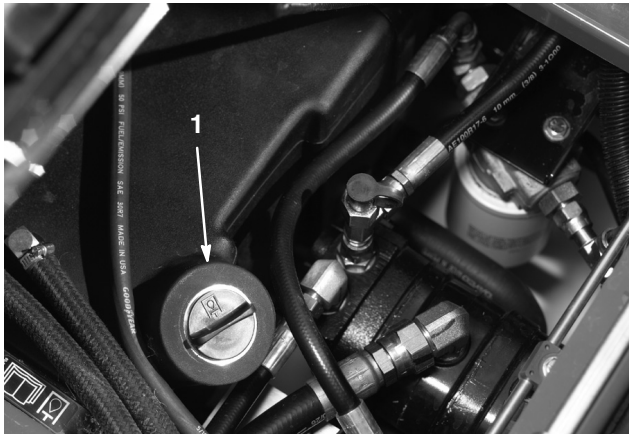

Figure 54
- Fill the reservoir (Fig. 54) with approximately 8 gallons (30 l) of hydraulic fluid; refer to Checking the Hydraulic Fluid, page 16.